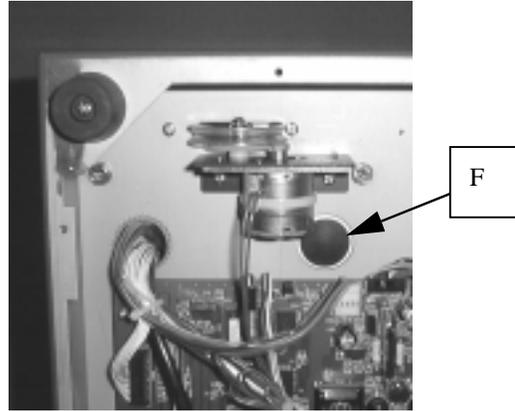

FIGURE 2-3
3. Remove the bed rubber stopper (F). Fig.2-3.
4. Set the needle bar to the lowest position, and loosen the clamp screw at the bed rubber stopper (F) position.